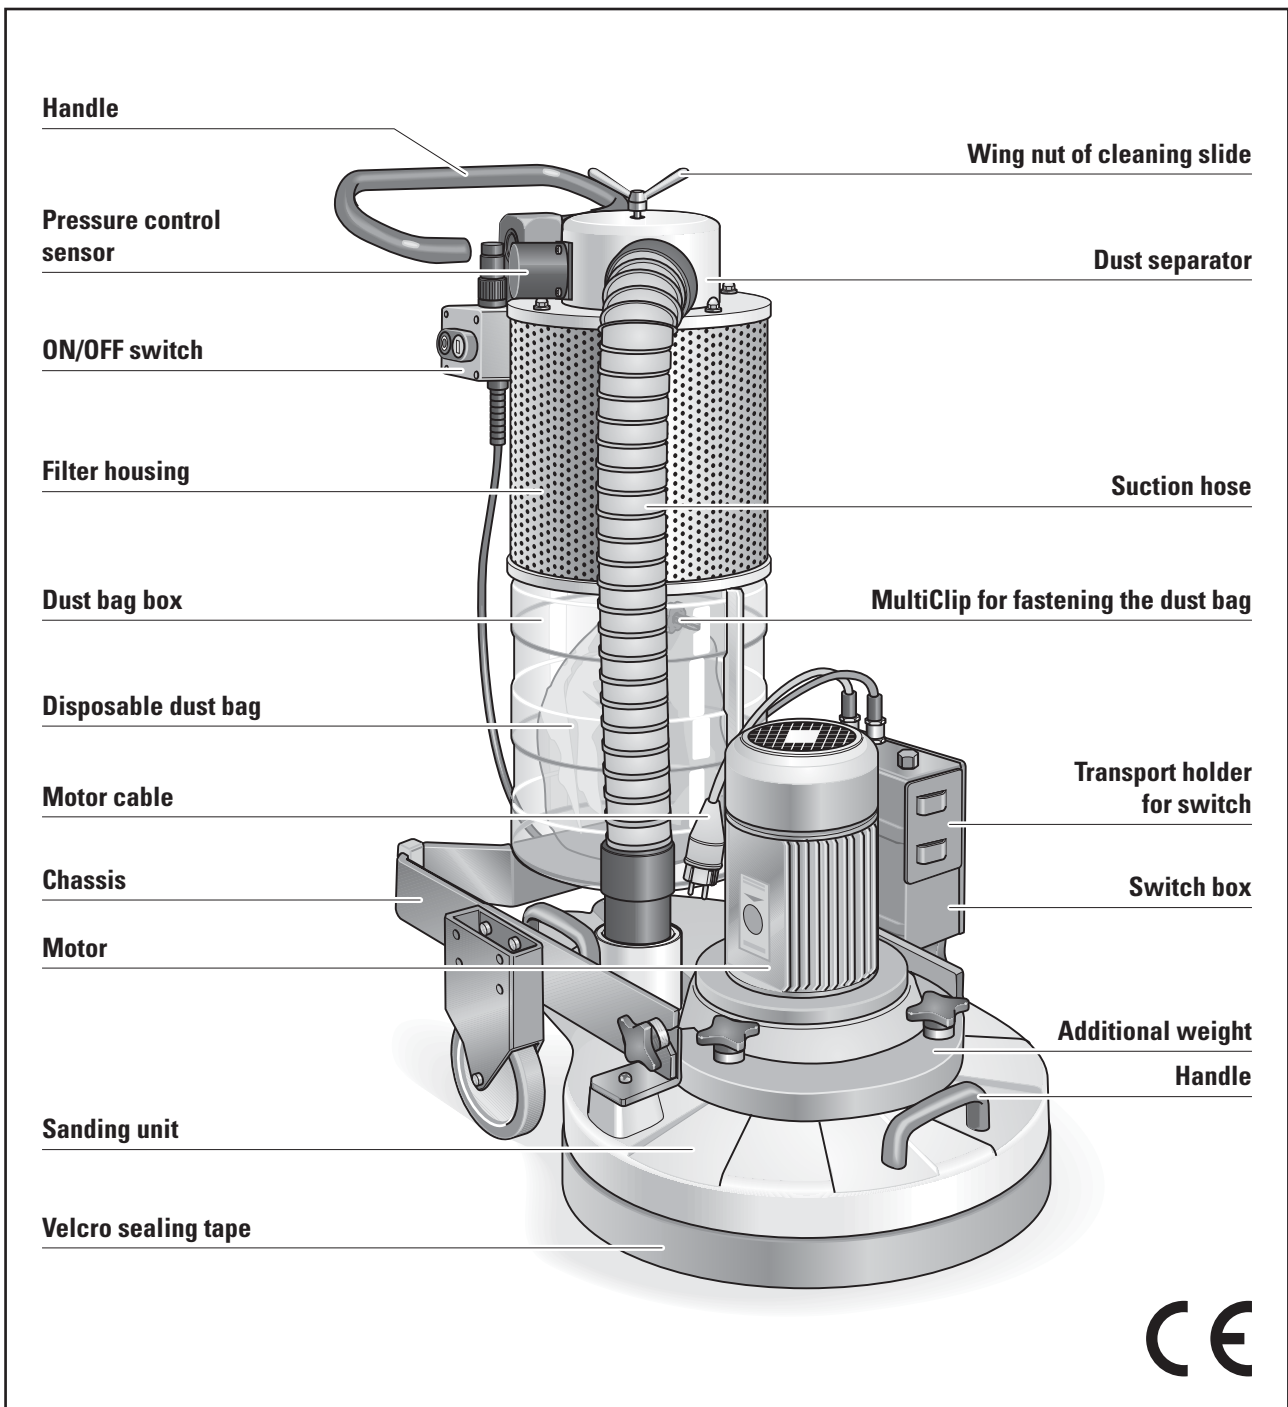

Fig. 1 Main features of the three disc sanding machine TRIO.
*Figure 1* depicts the TRIO with the main components designated. Take your time to become familiar with the machine.